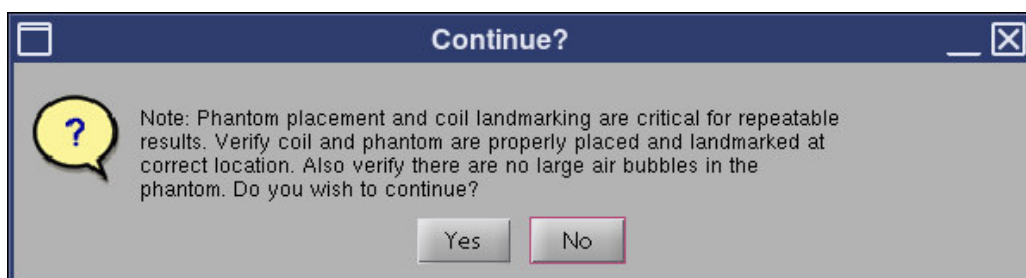

Figure 5: Warning Phantom placement & landmarking
- 3) Upon start-up, a message stating “Phantom placement and coil landmarking are critical for repeatable results” will appear. If the landmark has been set correctly and there are no air bubbles in the phantom, click **[Yes]** to continue. (Figure 5)